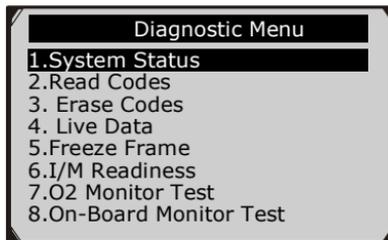

Figure 6-3
- 7) View a summary of system status (MIL status, DTC counts, Monitor status) on screen. (Figure 6-1) Press **OK** button for **Diagnostic Menu** (Figure 6-3) to come up.
- 1) Use **UP/DOWN** scroll button to select **Read Codes** from **Diagnostic Menu** and press **OK** button. (Figure 6-3)
- 1) Use the **UP/DOWN** scroll buttons to select **Erase Codes** from **Diagnostics Menu** and press the **OK** button. (Figure 6-3)
- 1) To view live data, use the **UP/DOWN** scroll button to select **Live Data** from **Diagnostic Menu** and press the **OK** button. (Figure 6-3)